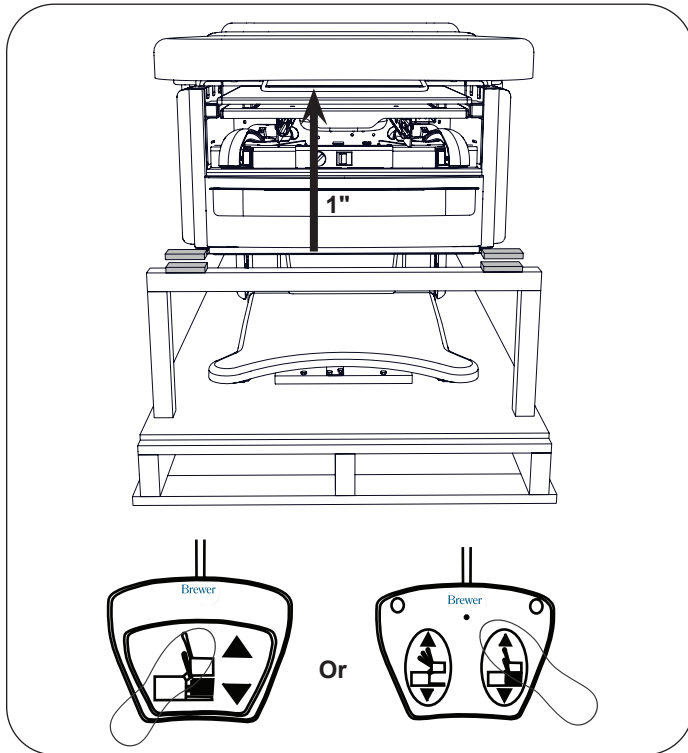

Figure 10. Raise Seat off of Base
- Press "Lift Up" on the foot control to raise the seat approximately 1" (Figure 10).